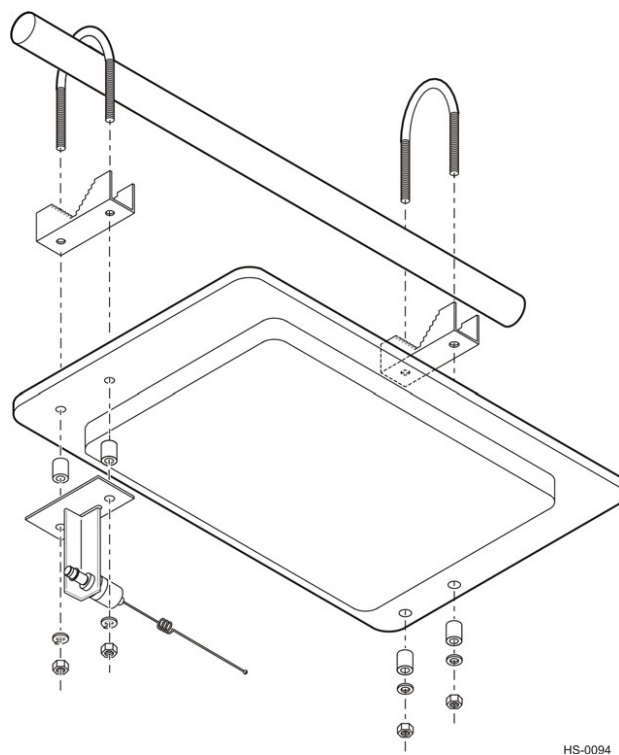

Figure 5 Check Tag Antenna Mounting on UTA Radome
1. At the end where the check tag antenna will be mounted, place a short spacer (1/4 inch) between the check tag antenna bracket and UTA radome. Place a lock washer and nut over each of the bolts. On the end opposite the check tag antenna, use a 1-inch spacer (supplied with UTA), lock washer, and locking nut over each end of the U-bolt (Figure 5).